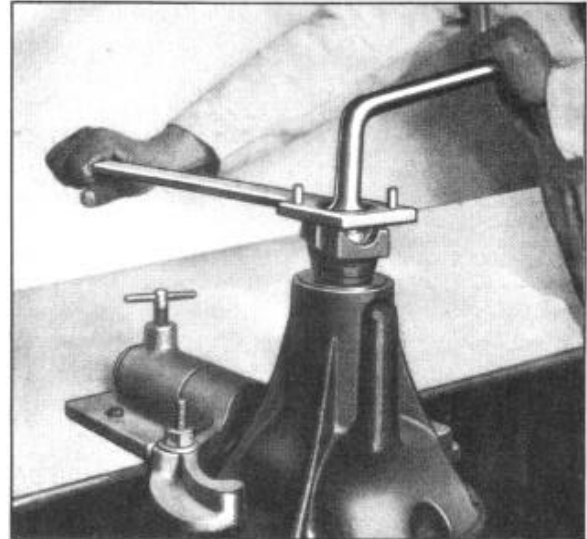

Figure 15--Installing Pinion Shaft Nut
12. Install shim pack (22) and pinion shaft rear bearing cone (25) on drive pinion (6) using Pinion Shaft Bearing Remover and Installer Tool J 1301.
13. Install bearing spacer (23) on pinion shaft ahead of rear bearing cone and place pinion bearing adjusting shims on the pinion ahead of the spacer.
15. Install companion flange (26) on front end of drive pinion and assemble pinion shaft nut (8) and washer (9). Tighten nut as much as possible using pinion shaft nut wrench J 351 and flange holding tool J 789 as shown in Figure 15.
**NOTE:** If the correct number of shims have been used between the pinion shaft front bearing (20) and spacer (23) (instruction No. 13) it should be just possible to turn the pinion shaft, with one hand. If the adjustment is tighter than this, add one thin shim at a time until this hand test is obtained.